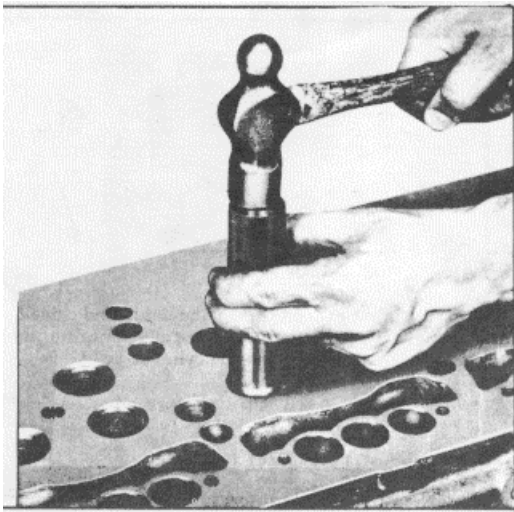
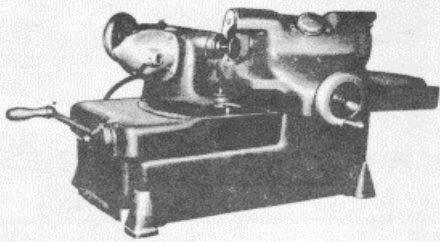

Fig. 10
Fig. 11
- (1) Clean the valve insert counterbore in the cylinder head with trichloroethylene or other good solvent. Also wash the valve seat insert with the same solvent. Dry both the counterbore and the insert with compressed air.
- (2) Inspect the valve seat insert counterbore in the cylinder head for cleanliness, concentricity, flatness and cracks. The counterbores have a diameter of 1.440" to 1.441" and a depth of .3395" to .3505". The counterbores must be concentric with the valve guides within .002" total indicator reading. If required, use a valve seat insert which is .010" oversize on the outside diameter.
- (3) Immerse the cylinder head for at least 30 minutes in water heated to a temperature of 180-200°F (92-93°C).
- (4) Rest the cylinder head, bottom side up, on a bench and place an insert in the counter bore valve seat side up. Install the insert in the cylinder head while the head is still hot and the insert is at room temperature, otherwise installation will be difficult and the parts may be damaged.
- (5) Drive the insert in place with installer J 24357 as shown in Fig. 10 until it seats solidly in the cylinder head.
- (6) Grind the valve seat insert and check it for concentricity in relation to the valve guide as outlined below.
7.12 Recondition Exhaust Valve and Valve Seat An exhaust valve which is to be reused may be refaced, if necessary (Fig. 11). To provide sufficient valve strength and spring tension, the edge of the valve at the valve head must not be less than .031" in thickness after refacing.